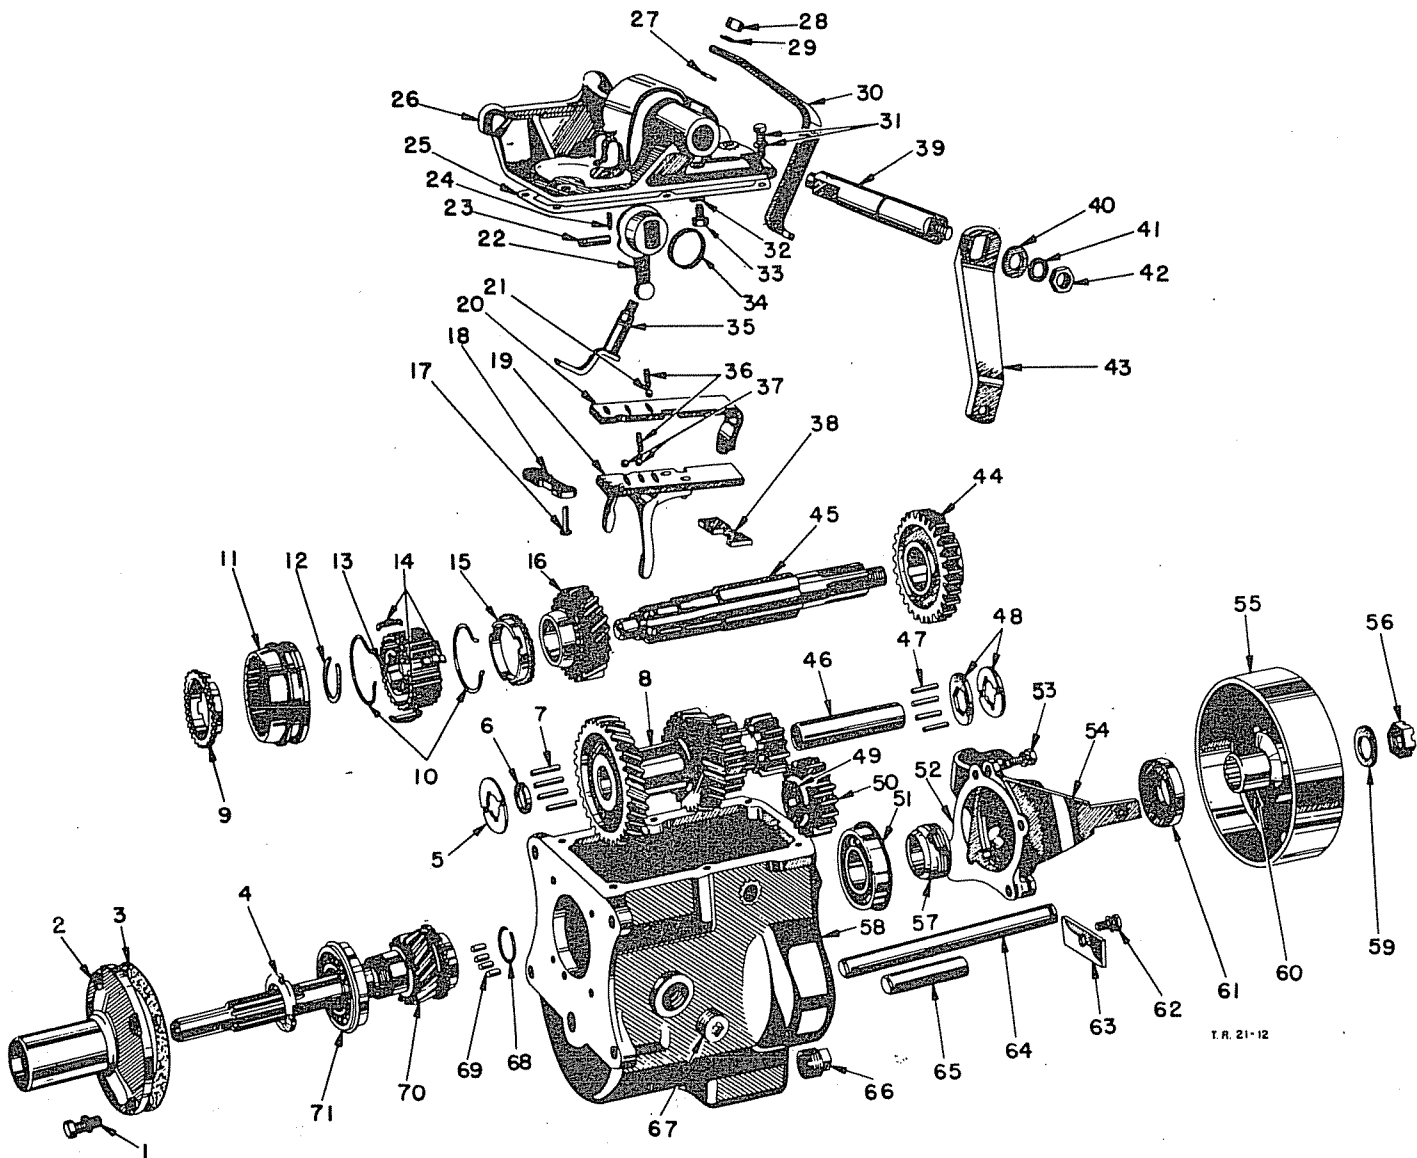

Fig. 1—Transmission (3-Speed). 1-08A, 2-26A, 2-33A.
KEY TO FIGURE 1.— TRANSMISSION (3 SPEED). 1-08A, 2-26A, 2-33A.
3. DISASSEMBLY OF TRANSMISSION (REMOVED) Refer Figure 1.